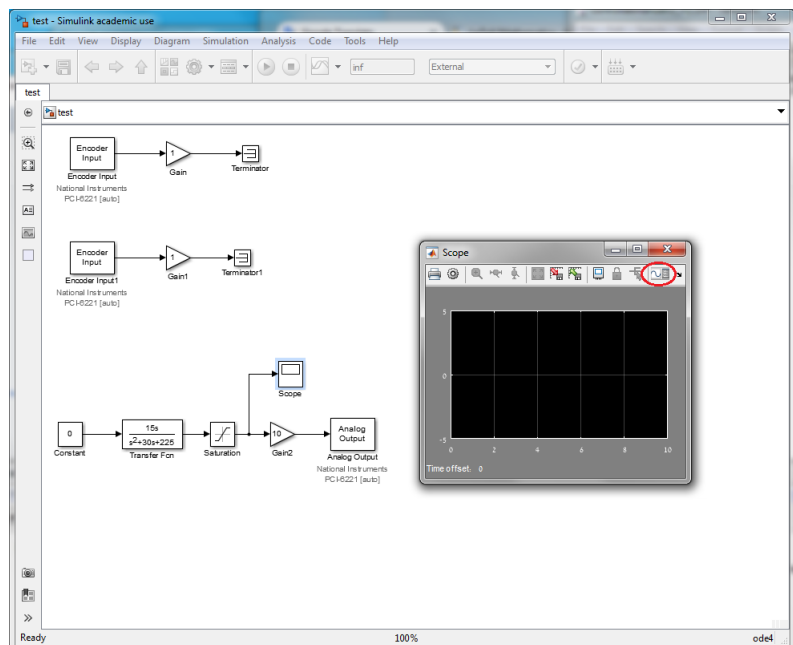

Figure 20: Scope block.
2. Add the block **Scope** to the Simulink model. Double-click on the block to open the settings dialog. On the **Scope** window toolbar is a button labeled 'Try Time Scope' (refer to Figure 20 for a screenshot; the button is circled in red).